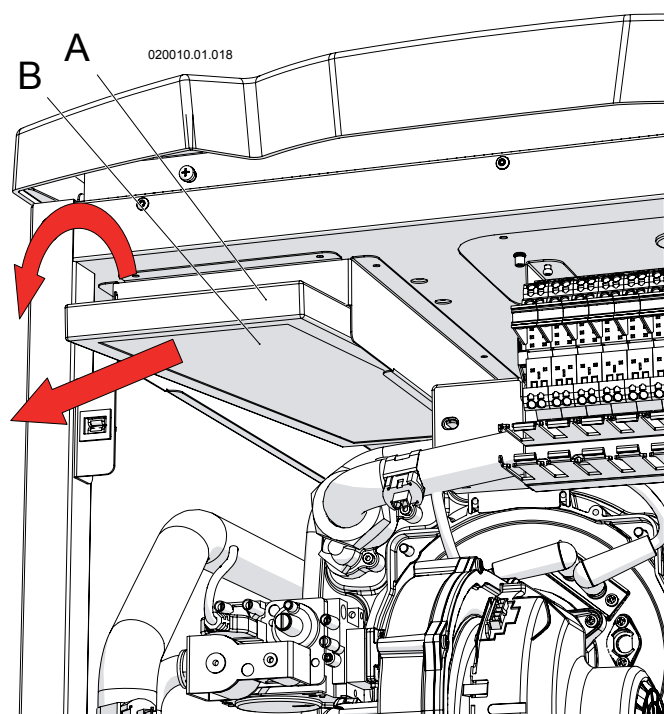

Figure 16-9 - Remove the air filter "B"
- 2.- Pull down with a rotation the air filter "B" as per Figure 16-9;